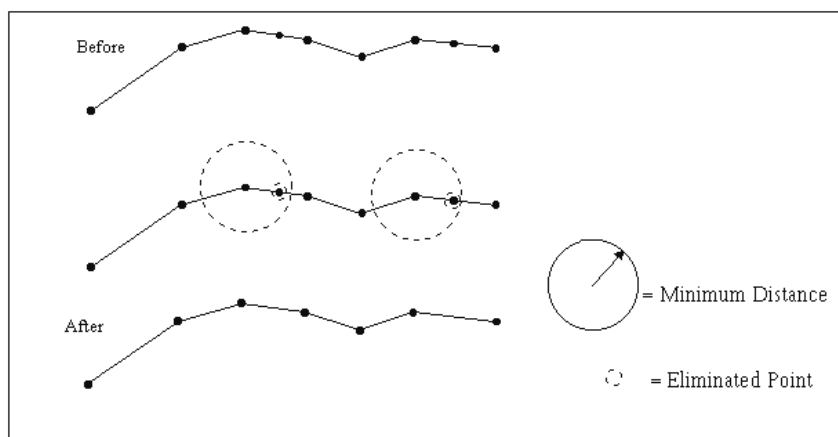

Figure 2-6: MINIMUM DISTANCE
- **INTERPLANE DELTA** Enter the interplane delta. See Figure 2-6.